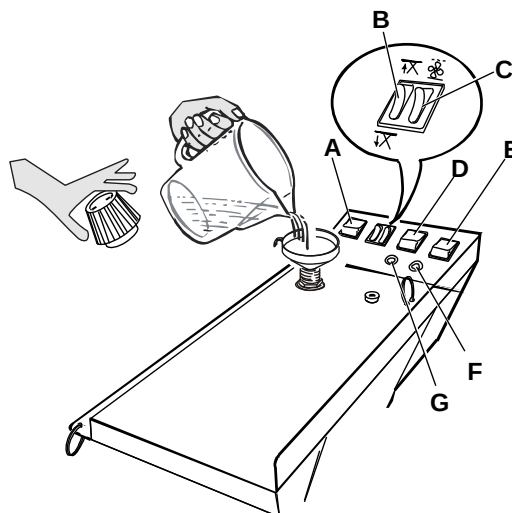
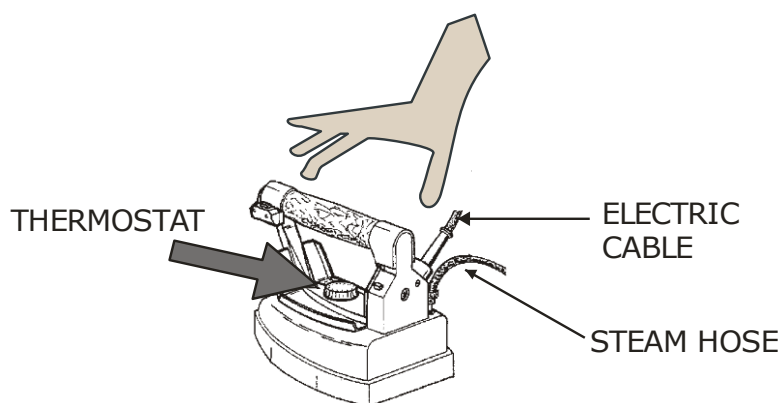
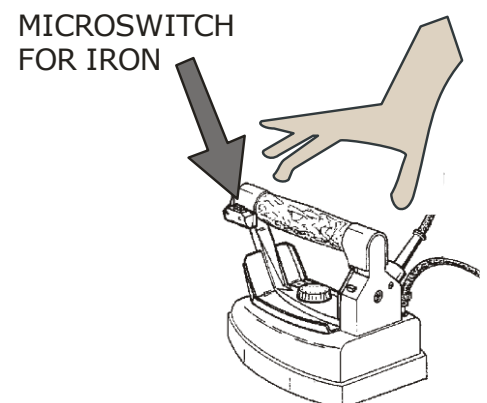

Fig. 4
Fig. 5
Fig. 6
6. Unscrew the safety valve plug of the SOLE M (fig. 4), and fill the boiler up to the desired level, paying attention not to spill (see chapter 7). It is recommended to use a funnel. Once this has been done replace the safety valve plug, paying attention not to fix it too tightly in order to avoid damage to the gasket.
8. Switch on the boiler (fig. 4 E), and the iron (fig. 4 D) and position the iron thermostat (fig. 5) on "cotton".
9. Once the boiler lamp (fig. 4 G) switches off, the SOLE M has reached optimum pressure for ironing. Seize the iron by the cork handle and press the micro-switch 4-5 times (fig. 6) so that steam comes out. It is important to make sure it is a saturated steam (by pressing the micro switch with the iron pointed downwards).
10. Once all these procedures have been followed, SOLE M is ready to iron. While ironing, the boiler lamp (fig. 4 G) will continue to switch on and off signalling that the machine is working properly.
- automatic or manual by pressing switch C (fig. 4).
12. **Never replace the safety valve plug (fig. 4) with other types of plug. N.B. the safety valve plug is set on 4,5 BAR and it has the function of a safety valve.**
The vacuum and blowing may function continuously (automatic) or may be activated by pressing the iron micro-switch – manual (fig. 4 C).
To choose whether to use vacuum or blowing set the switch in the desired position (fig. 4 B).
1. Run the iron on the garments, pressing the micro-switch of the iron at intervals (fig. 6) so that steam comes out and vacuum is activated. Vacuum avoids water stagnation and allows the garments to dry.
4. For dry ironing it is possible to adjust the thermostat (fig. 5) on various positions according to the type of fabric (check garment label). For steam ironing, set the thermostat on "cotton" or "linen".
To activate it press the respective switch (fig. 4 A). Blowing function is automatically activated. The steaming operation is controlled by selector 4 C and may be continuous or activated by pressing the iron micro-switch.
When the water in the boiler is finished, the "water missing" pilot lamp switches on (fig.4 F). Unplug the machine, unscrew the safety valve plug just slightly 360° (fig. 4) so that all the steam comes out. Completely unscrew the valve plug with care and wait at least 5/10 minutes.
Fill the boiler with water (fig. 4) to the desired level, being careful not to overfill the boiler (see chapter 4 point 6). Screw the valve plug again, turn on the machine and wait for the boiler lamp to switch off (fig. 4 G). Now the iron is ready again.
3. steam hose and iron electric wire whenever they seem damaged (fig. 5);
4. the safety valve plug every 2500 hrs. or maximum every 3 years (fig. 4).